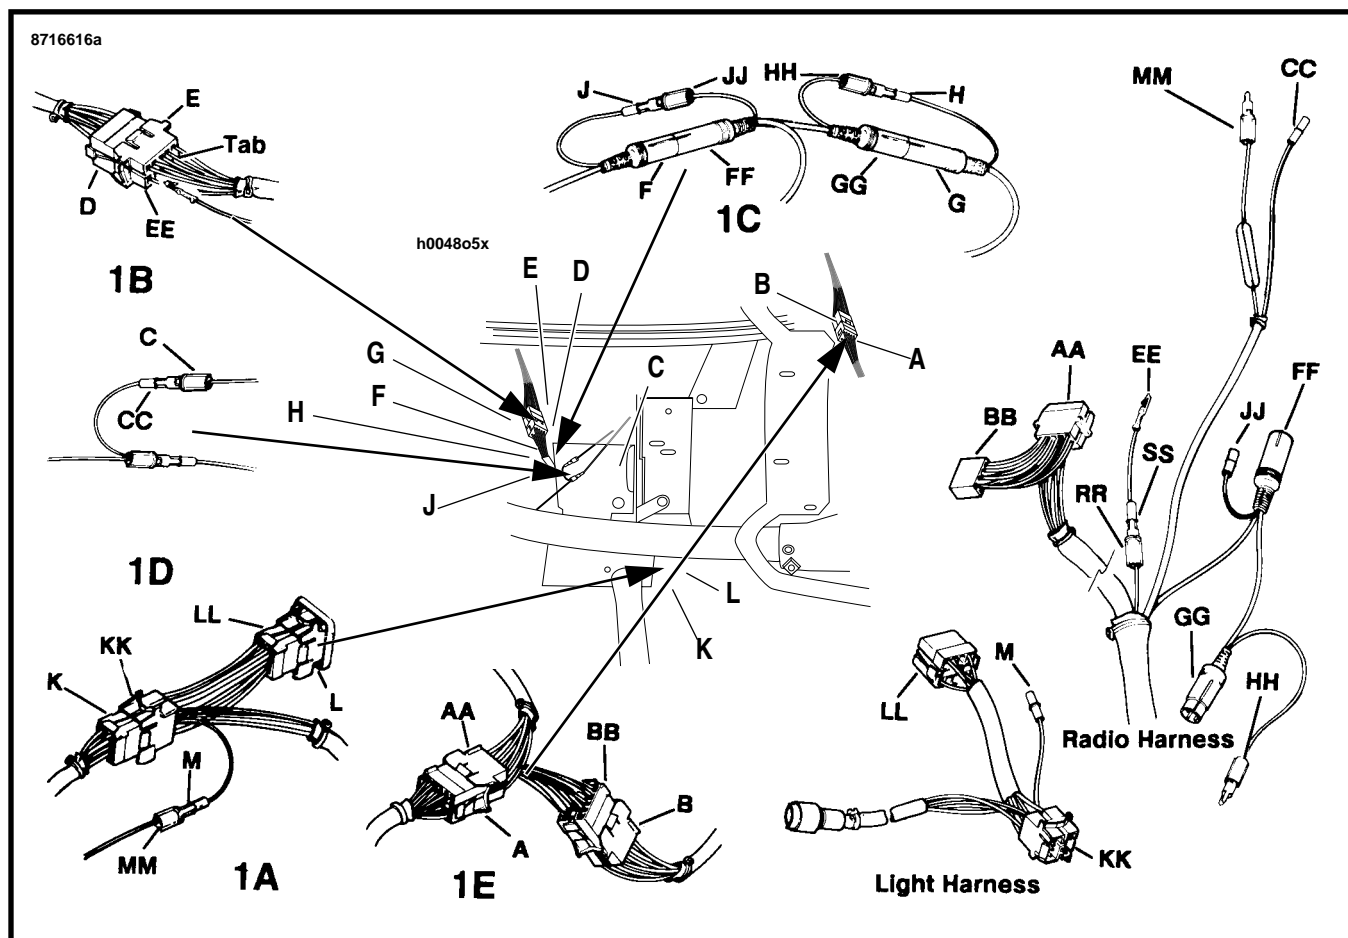

Figure 14. Tie Ultra Wiring Harness - 1989 to 1990
TLE Ultra Sidecar (Figure 14)
1. Remove left side panel. Remove seat. See Inset 1A of Figure 14. Locate socket connector half (K) under side panel. Separate socket connector (K) from pin connector (L). Take socket connector (LL) of Light Harness and connect to pin connector (L) at vehicle side panel. Take pin connector (KK) at light harness and connect to socket connector (K) at vehicle. Connect pin connector at end of side car light harness to receptacle at end of vehicle light harness
1. Route radio harness as instructed under ROUTING RADIO HARNESS. See Inset 1E of Figure 14. Locate the ten pin connector on top of the rear fender under the Tour-pak. Separate connector halves (A) and (B) at vehicle. Pack socket connector halves (A) and (BB) with Electrical Contact Grease Part No. 9986190. Connect the ten pin connector (AA) of radio harness to ten socket
2. See Inset 1C of Figure 14. At the opening under the seat, locate the three pin Din connector halves (F) and (G) and the grounding connector halves (H) and (J). Separate Din connector halves (F) and (G) and the grounding connector halves (H) and (J). Connect the three socket Din connector (FF) of radio harness to three pin Din connector (F) at the vehicle. Connect the three pin Din connector (GG) of the radio harness to three socket Din connector (G). Wrap a piece of friction tape around Din connectors where halves join. Connect grounding connectors (JJ) and (HH) of radio harness to the mating grounding connectors (J) and (H) at the vehicle.
3. See Inset 1D of Figure 14. Directly under the cruise control servo motor, locate unattached single socket (C) on a black wire pigtailed off at connector joining two black wires. Connect single socket connector (CC) of radio harness to single pin connector (C) at vehicle.
4. See Inset 1B of Figure 14. Locate the ten pin connector (D) and (E) at the front of the opening under the seat separate connector halves (D) and (E). Insert single pin (EE) of radio harness into the fourth hole from the tab at the wire side of socket connector (E). Pack socket connector (E) with Electrical Contact Grease, Part No. 99861-90. Join connector halves (D) and (E).
Once single pin (EE) is installed, it is not removed from connector (E) for solo service. See Radio Harness, Figure 14. When connecting the radio harness for sidecar service after initial set-up, join the connector halves (RR) and (SS).